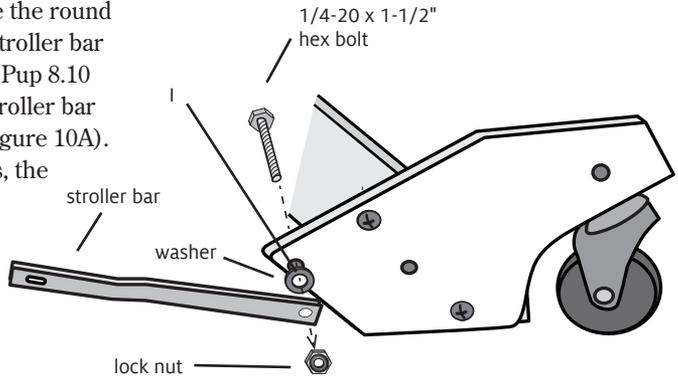
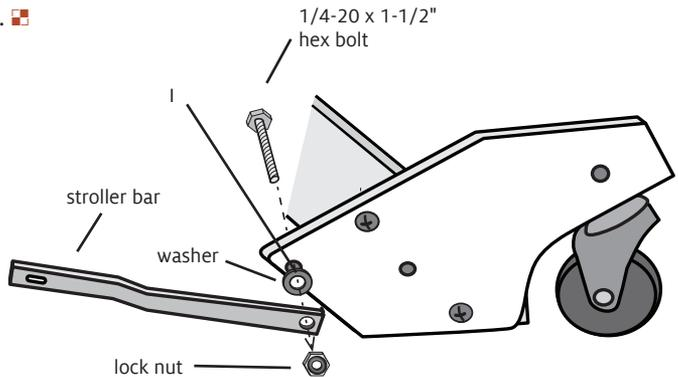

FIGURE 10A: STROLLER BAR ON WOLF PUP 8.10
FIGURE 10B: STROLLER BAR ON WOLF PUP LT
10. Attach the stroller bar to the rear caster block: From the inside of the loom, insert a 1/4-20 x 1-1/2" hex bolt through hole [I] in the rear caster block. Place a washer on the hex bolt and then place the round hole at the end of the stroller bar over the bolt. For Wolf Pup 8.10 looms, the jog in the stroller bar must point *outward* (Figure 10A). For Wolf Pup LT looms, the jog in the stroller bar must point *inward* (Figure 10B). Secure the hex bolt with a 1/4-20 lock nut, using a 7/16" wrench to attach the lock nut. Tighten the lock nut securely enough to hold the stroller bar in place, but loosely enough for it to pivot. Repeat for the other rear caster block. ■